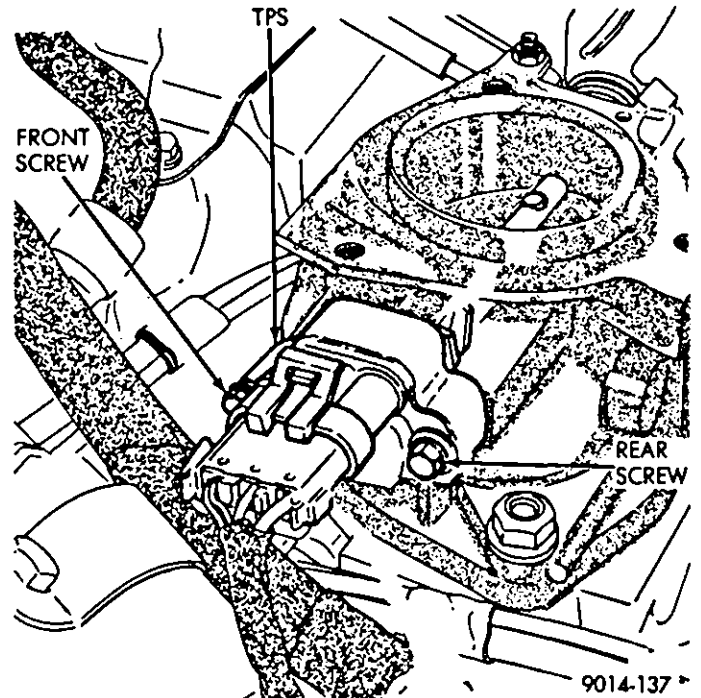

Fig. 21—TPS Adjustment
- (1) Turn the ignition key to the ON position.
- (2) Do not unfasten the TPS wire harness connector (Fig. 21). Insert the voltmeter test leads through the back of the wire harness connector.
- (8) If necessary, adjust the TPS sensor until the correct ratio is obtained. To adjust the voltage readings, loosen the sensor rear retaining screw and pivot the sensor for a fine adjustment. Loosen the sensor front retaining screw and pivot the sensor for a course adjustment (Fig. 21).